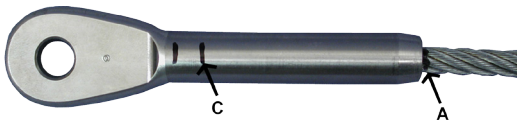

Figure 4
Push the cable back into the fitting until the mark (A) is flush with the bottom of the shank again. Start your swaging at mark (C) on the shank as shown in Figure 4.